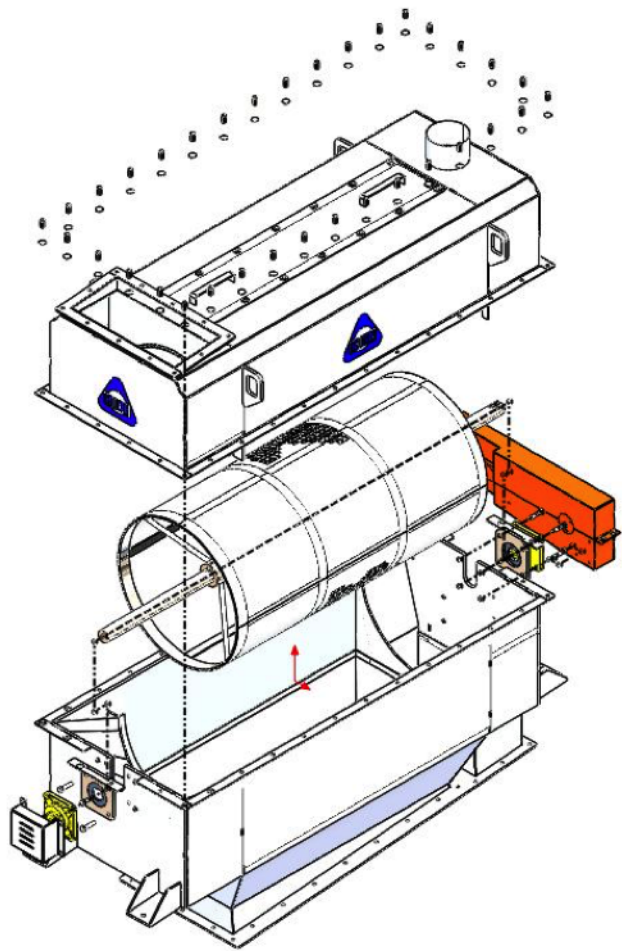

Figure 7 Exploded View
3. Remove reel and replace with new reel (see Figure 7).